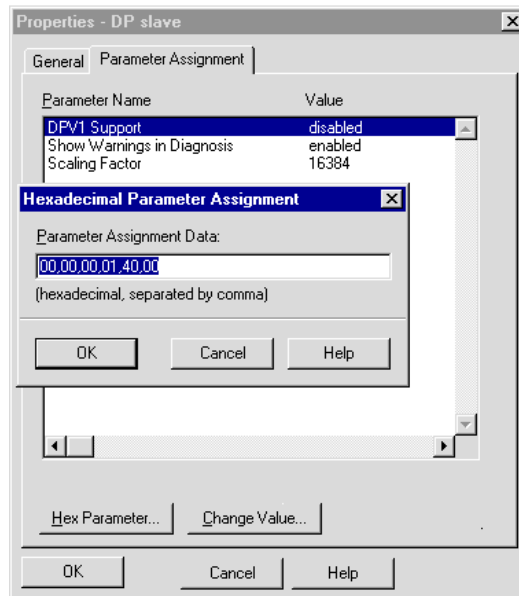

Figure 3.1 Configuration, CM-DPV1 parameter setting
The DP standard parameters are created independently by the hardware configurator based on the GSD file. In many hardware configurators these DP standard parameters are not visualized, which means only the parameters as from byte 7 are made available for editing; see also Figure 3.1.
To reach the window manually from Figure 3.1:
- Select the DP-Slave (see Figure 3.1 “(3) (Lust CM-DPV1”).